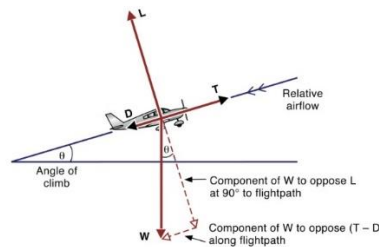

Figure 7-1 The four forces in a steady climb
■ Figure 7-1 The four forces in a steady climb